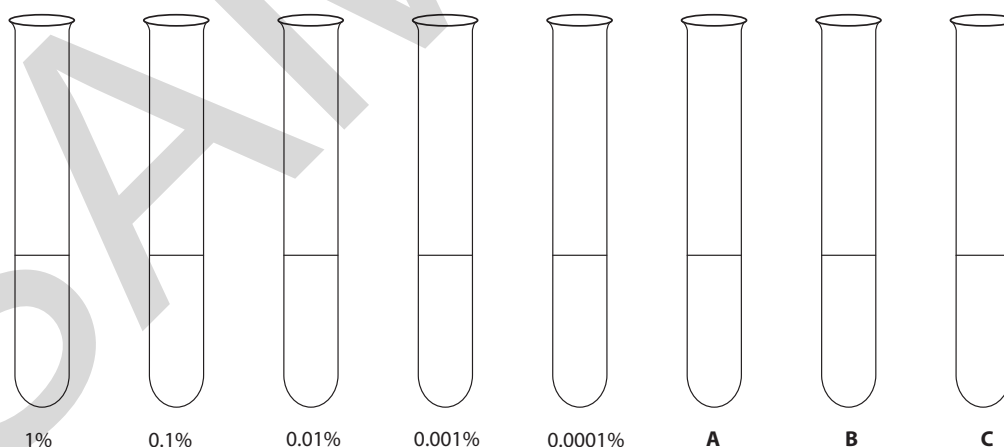

Figure 2.5
- 5 Either colour each tube the appropriate colour in Figure 2.5 in the Results section or take a photograph of the tubes and stick it into this workbook.